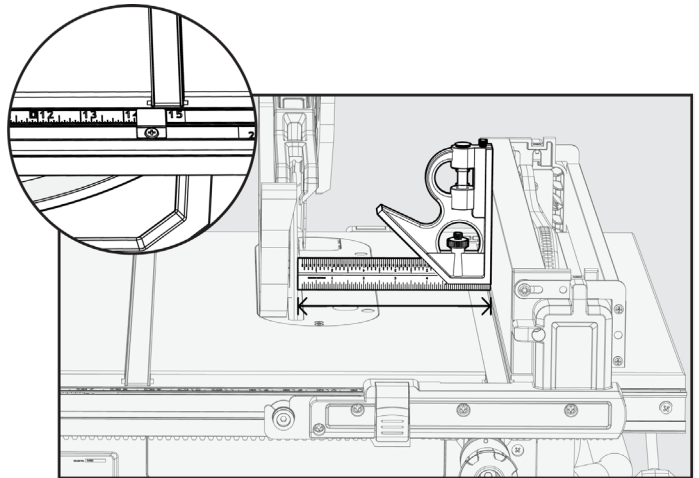

Figure 45
1. Using a precision measuring tool, measure the distance from the inside face of the Blade to the edge of the Miter Slot. See Figure 45.